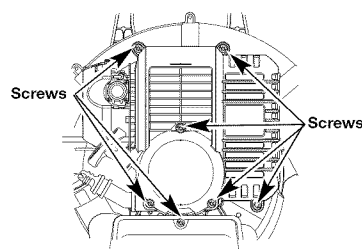

Fig. 28
1. Remove the seven (7) screws on the back of the engine cover with an appropriate screwdriver (Fig. 28).
4. Remove the engine cover (Fig. 28).
1. Stop the engine and allow it to cool. Remove the eight (7) screws on the back of the engine cover with an appropriate screwdriver (Fig. 28).